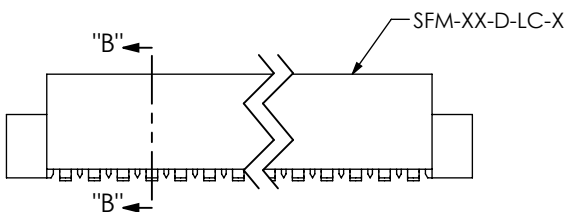

FIG 2
-02: SURFACE MOUNT (USE CONTACT: C-44-02-XXX) (SEE FIG 2, SHT 2)
-L2: SURFACE MOUNT (LOW INSERTION) (USE CONTACT: C-61-02-XXX) (SEE FIG 2, SHT 2)
-T2: SURFACE MOUNT (PHOS BRONZE) (USE CONTACT: C-119-02-XXX) (SEE FIG 2, SHT 2)
(SAME AS FIG 2, DIFFERENT AS SHOWN)